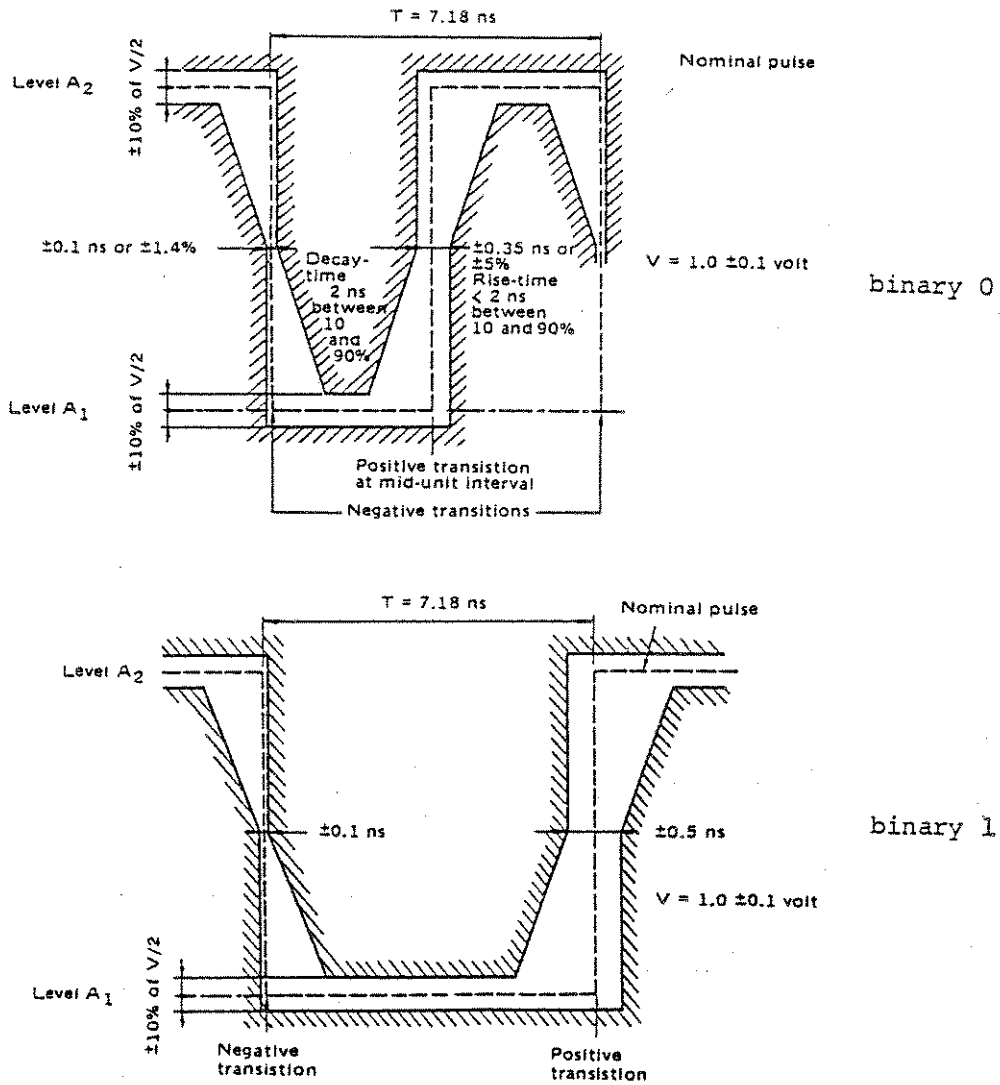

Fig. 6-25 Pulse Mask Diagram of 139.264 Mb/s CMI Interface
- 10 Confirm that the waveform on the sampling oscilloscope satisfies the pulse mask diagram shown in Fig. 6-25.